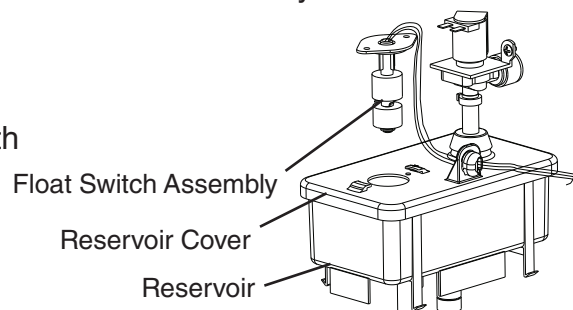

Fig. 5
- 10) In bad or severe water conditions, clean the float switch assembly as described below. See Fig. 5. Otherwise, continue to step 11.